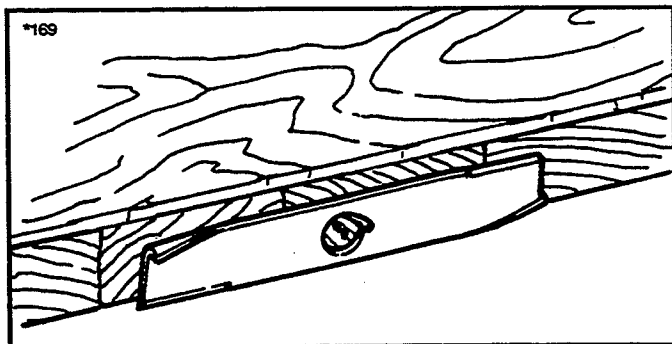

Figure 26. Balancing the Blade
5. Balance the blade as shown in figure 26. Center the blades' center hole on a nail lubricated with a drop of oil. A balanced blade will remain level.